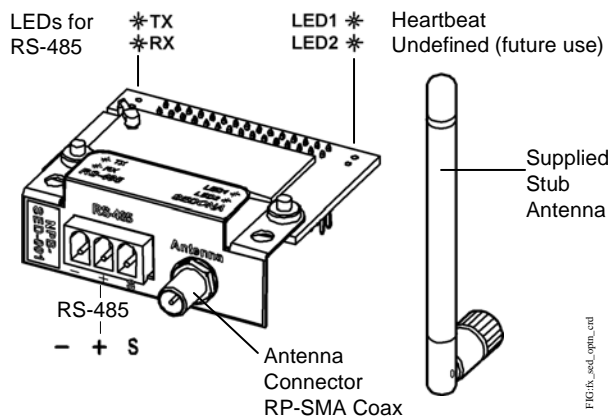

Figure 1: FX Supervisory Controller Sedona Framework Option Card
Screw terminals are minus (–), plus (+), and shield (S), as seen on the end plate label (see Figure 1).
The Sedona option card has four LEDs for RS-485 and other status. All LEDs are on the top of the card (you must remove the FX Supervisory Controller cover to view the LEDs). See Figure 1 for LED locations.